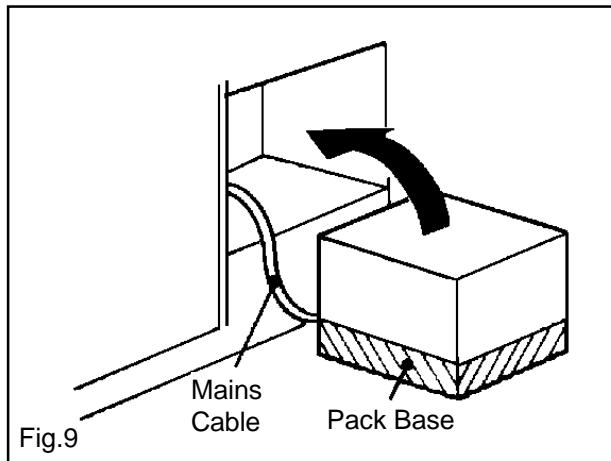

Fig.9
- Position the cooker in front of the cabinet. See Fig. 9.